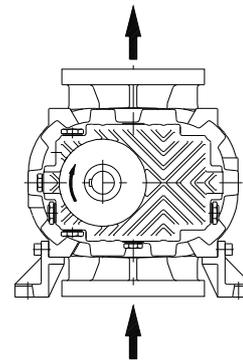

Fig. 4
**Warning :** Do not use the blower with a direction of rotation or a flow direction different from that one shown in Fig 4.